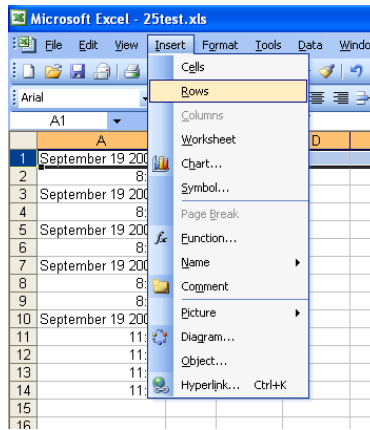

Figure 36
- If you want a heading for the data, highlight the first row and select **R**ows from the **I**nsert Menu. Refer to Figure 36.